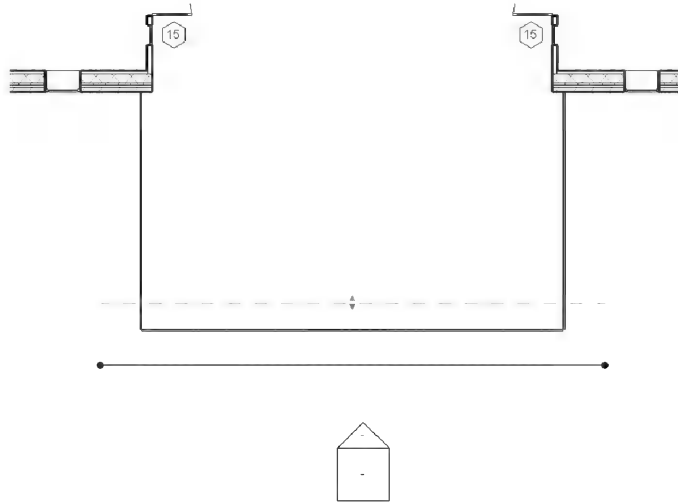

FIGURE 8-1.7 Atrium curtain wall detail elevation
18. In **Level 1** plan view, adjust the elevation tag to show only the atrium curtain wall (Figure 8-1.7).